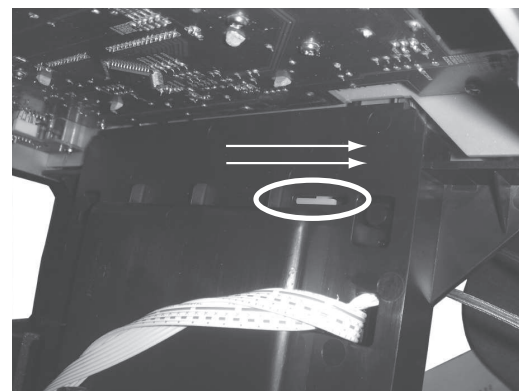

figure 3
- 2) Push the gear slowly towards the front as shown in figure 3 until the DVD tray move out of the front cabinet. now the DVD tray is disengaged and can be pulled out completely.